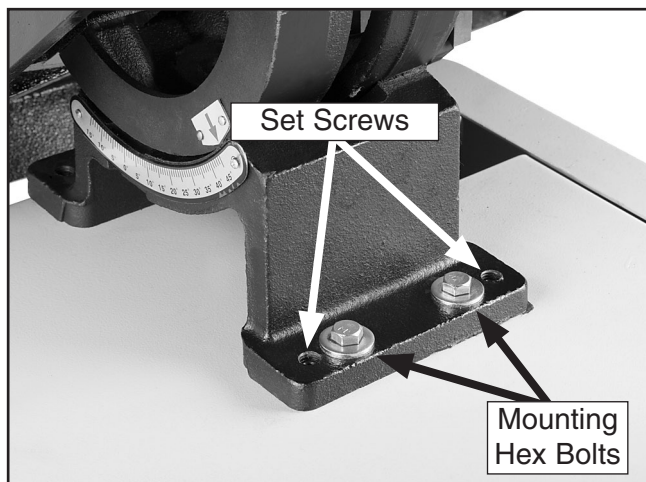

Figure 54. Table mounting hex bolts and adjusting set screws.
5. Use a 12mm wrench to loosen the table mounting hex bolts (see **Figure 54**).